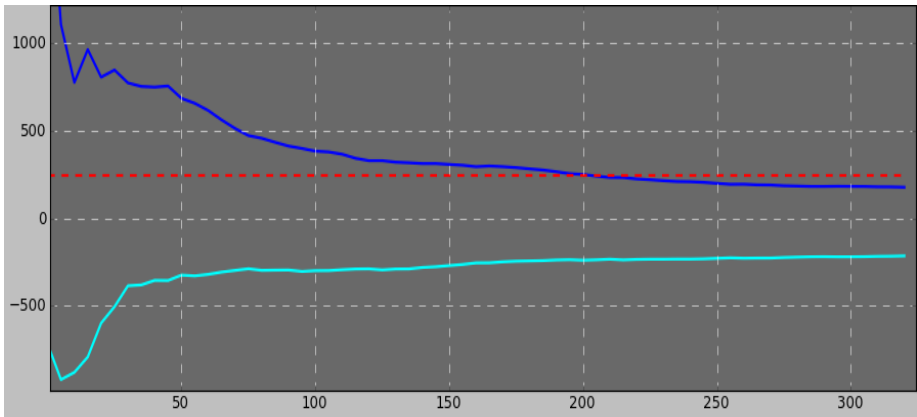

Figure 2.18 – Control of threshold exceeding with the help of the cursor
2.8 If the aim of your measurement is to make sure whether the specific activity exceeds some specified level (threshold value), the trend mode appears to be **the most time-effective**. Right after the measurement start, place the red line-cursor at such a level of specific activity you want to control when exceeded or not. Then you should follow the change of position and width of the band and wait until the entire band becomes obviously lower than the specified level. The following example (Figure 2.18) shows that the entire band of possible values of specific activity has gone below the specified threshold (threshold is a red dotted line) after about 200 seconds of measurement. You should not jump to the conclusion too quickly at the early stage of measurement, since the band may go down at the beginning and then move up the threshold. To get more reliable result you should wait for a relatively stable condition of the band when its lines change their color (color change means that the confidence level has increased: the color changes from grey to blue, and then from blue to dark blue).